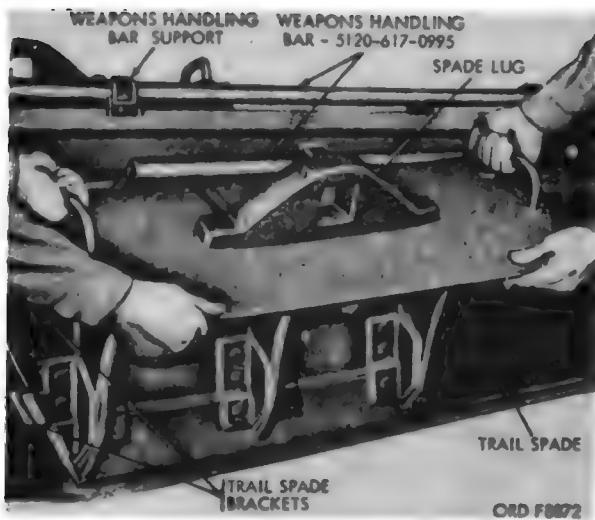
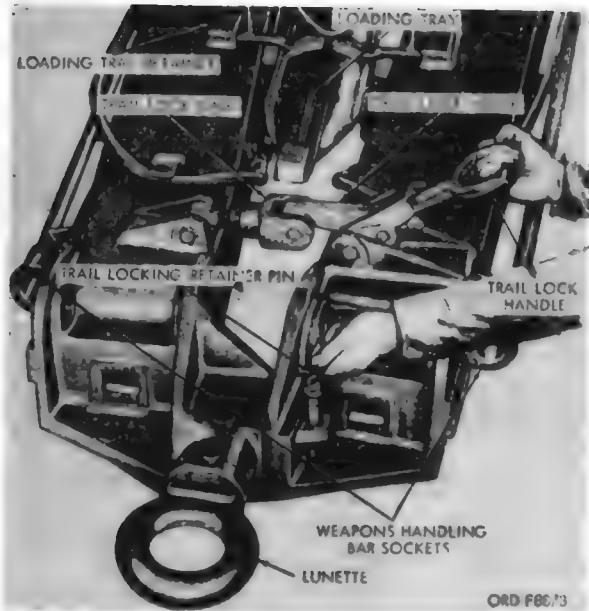

Figure 47. Removing trail spade from brackets on side of trail.
Figure 48. Releasing trail lock and removing trail locking retainer pin.
- (1) Remove the trail spades from the trail spade brackets on the trails (fig. 47) and place them on the ground near the positions they will occupy. Remove the remaining
spade key from the spade key bracket (fig. 2) and lay it on top and near the end of the right trail. Remove the trail locking retainer pin and release the trail lock hook from the trail lock link by swinging the trail lock handle up (fig. 48).
- (2) Remove the weapons handling bars from their supports on top of the trails (fig. 47) and insert them in the weapons handling bar sockets (fig. 48) in the end of the trails. Break the trails and spread them sufficiently to remove the firing jack float (fig. 87) from retainers. In some cases, it will be necessary to place the end of the weapons handling bar between the ends of the trail and use it as a lever to break the trails apart. Place the firing jack float in front of the weapon. Spread the trails to their fully open position (fig. 49).
- (4) Position the trail spade for each trail so that the spade lug (fig. 47) fits into the slot provided on the bottom of each trail and lock them in place with the spade keys (fig. 51). Mark the outlines of the pits for the trail spades and dig the pits.
- (1) Remove the trail spades from the trail spade brackets on the trails (fig. 47) and place them on the ground near the positions they will occupy. Remove the spade keys from the spade key bracket (fig. 2) and lay them on top and near the ends of the trails. Remove the trail locking retainer pin and release the trail lock hook from the trail lock link by swinging the trail lock handle up (fig. 48).
- (2) Remove the weapons handling bars from their supports on the top of the trails (fig. 47) and insert them in the weapons handling bar sockets (fig. 48) in the end of the trails. Spread the trails sufficiently to remove the firing jack float (fig. 37) and loading tray (fig. 48) from between the trails. In some cases it may be necessary to pry the trails apart with the weapons handling bar. Place the firing jack float in front of the weapon. Spread the trails to their fully open position.
- (3) Insert the handling bar horizontally through the two holes in the end of each trail (fig. 51). Lift the two trails simultaneously, position the trail spade for each trail so that the space lug (fig. 47) fits into the slot provided on the bottom of each trail, and lock them in place with the spade keys (fig. 51). Mark the outlines of the pits for the spades, close the trails sufficiently to clear the outlines, and dig the pits for the spades.
- (4) Spread the trails simultaneously and lower the spades into the pits. Remove the handling bar from the trails.